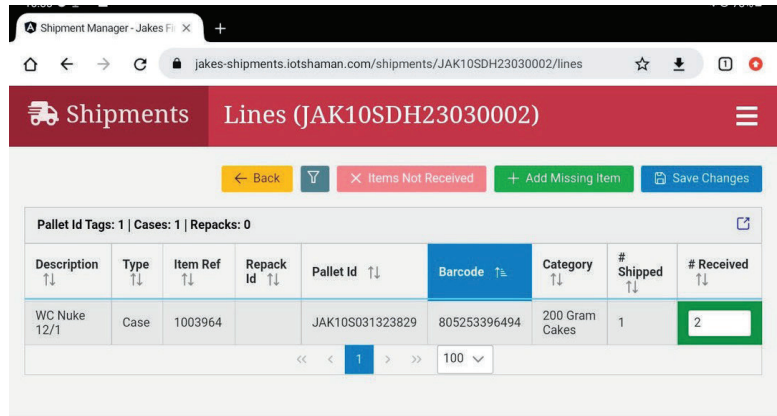

Figure 11
- g. Change # Received as needed. Once the # Received for the item is changed, you can save the change by either clicking on Save Changes once the change is saved the # Received field will now be highlighted in GREEN (Figure 11)